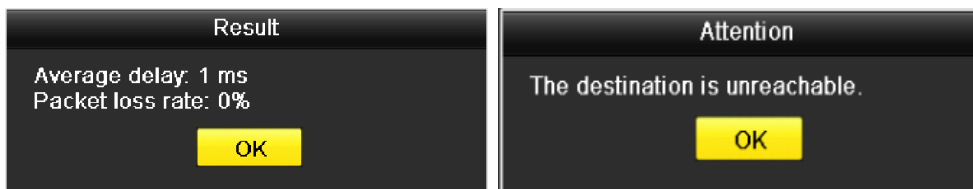

Figure 9.30 Testing Result of Network Delay and Packet Loss
3. Select the backup device from the dropdown list of Device Name, as shown in Figure 9.30.